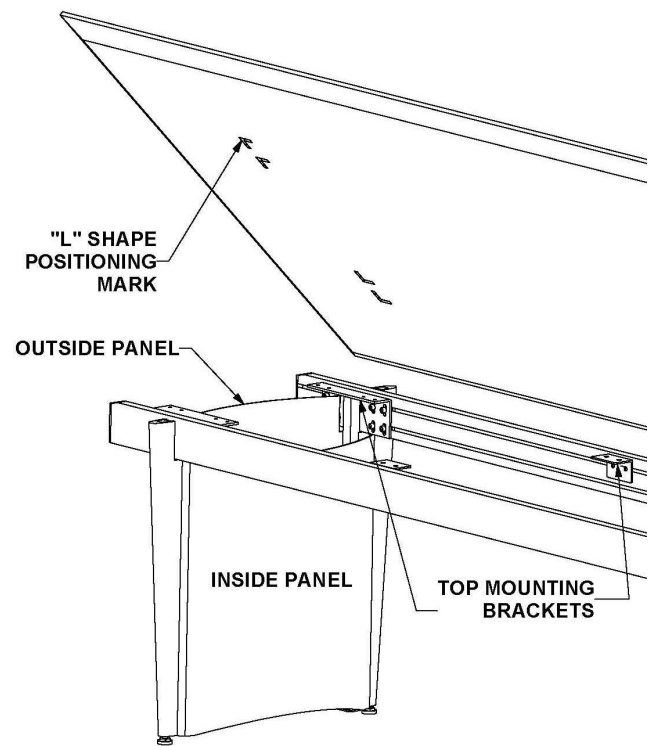

Figure 4
7. Place Top onto the Base and Beam structure. Center Top using the "L" shape marks on the underside of the Top as a guide. Pre-drill 5/32 x 3/4" deep holes corresponding to the Top Attachment Brackets. Attach Base and Beam structure to Top using olive colored #12 x 1" Wood Screws provided (See Figure 4)
8. Base Panels: The Base Panels are designed to bend into place. Place one side of the Panel into Panel Retention Rail and flex Panel positioning the opposite side into the opposite rail. Make sure shorter Panel is on the inside and the taller Panel is on the outside. The curved end should be oriented towards the floor to allow wire passage if needed (See Figures 4 & 5)